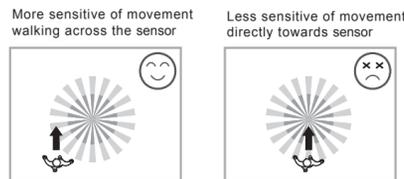

FIG.3
- 3.1.2 Pay attention to the walking direction in the test proceeding. It is more sensitive to movement across the sensor and less sensitive to movement directly toward to sensor which will reduce the detection coverage (See FIG.3).